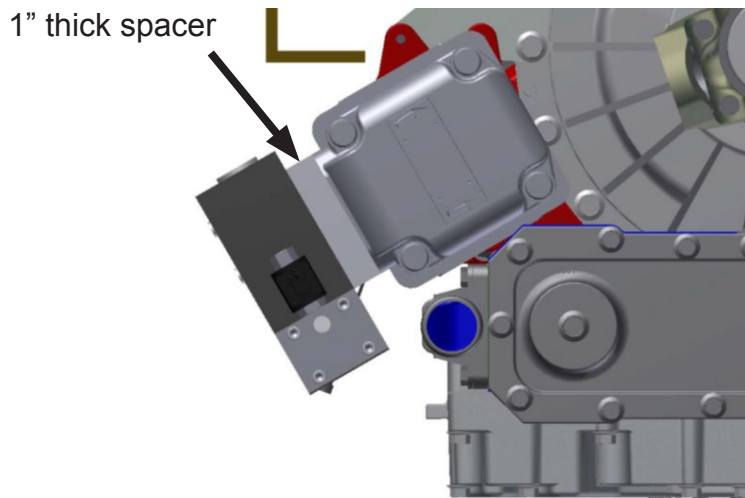

Figure 10
11. Install the appropriate size spacer on top of each port on the pump (Figure 10). Ensure the o-rings are intact, not damaged, and are face down toward the pump.